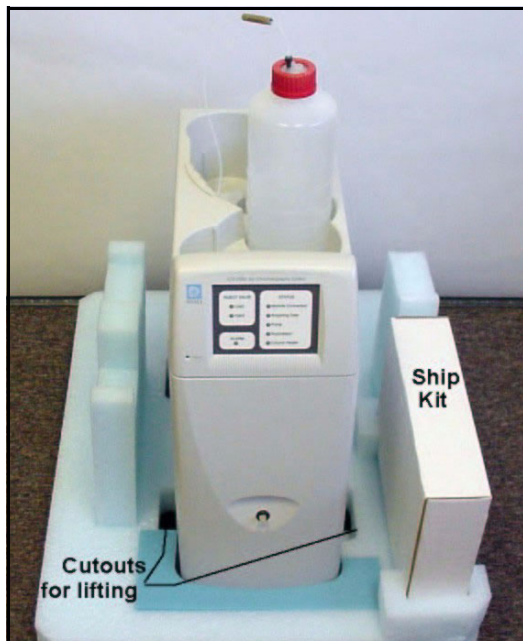

Figure B-3. ICS-1000 with Ship Kit
3. Remove the next layer of foam and remove the Ship Kit box (see Figure B-3).
4. The bottom foam layer has two cutouts on either side of the ICS-1000 module; use these as hand holds when lifting the module (see Figure B-3).